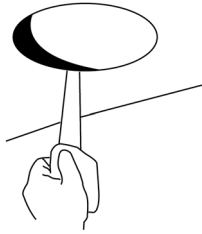

Figure 19
3) According the material of ceiling, choose the different tools to drill (Figure19).